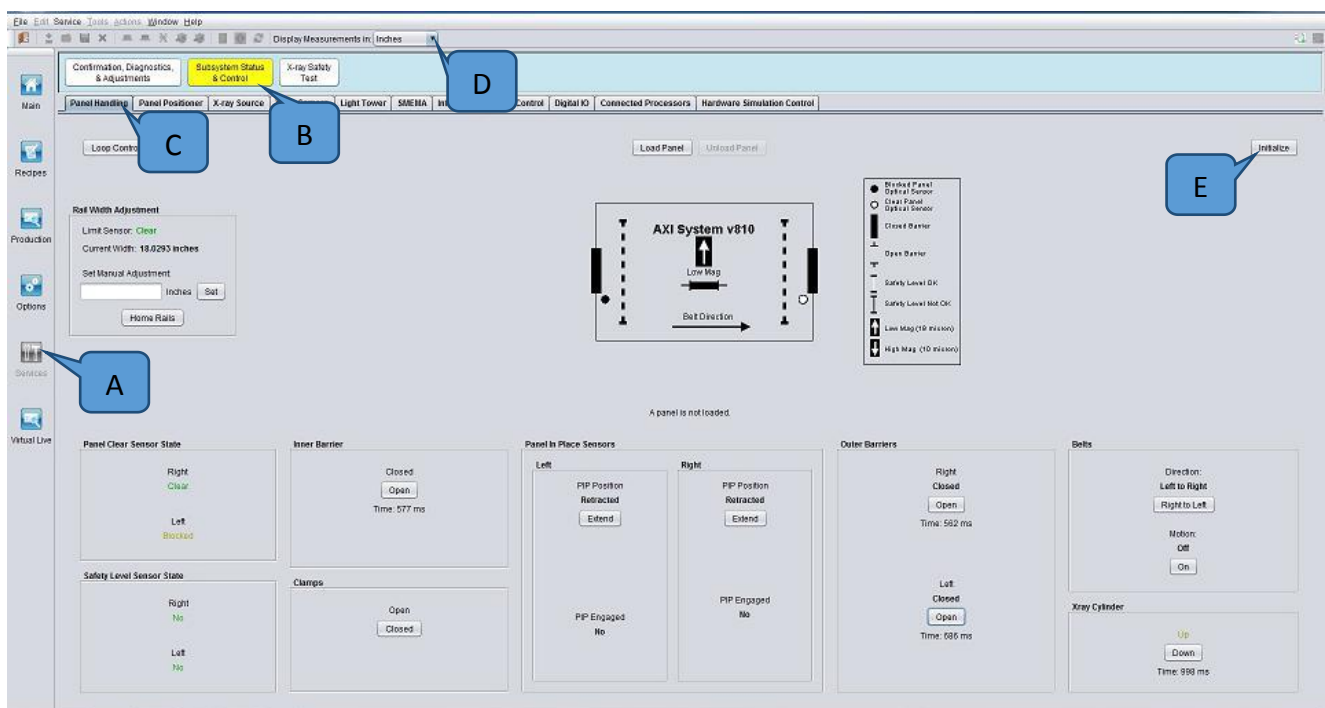

Figure 2 Panel handling
- Go to Panel Handling tab and initialize as show in Figure 2. Change display measurement unit to MM